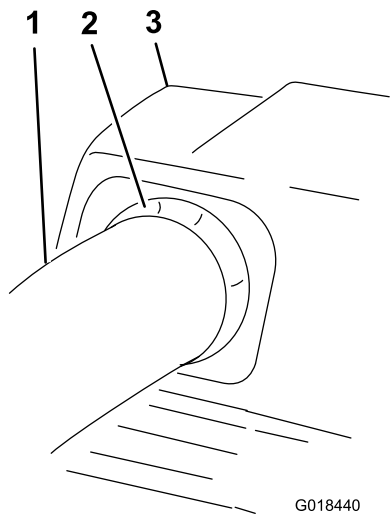

Figure 29
11. Pull the upper tube out slightly so that the seal extends outward and over the lower tube (Figure 29).
20. Pull the upper tube out slightly so that the seal extends outward and over the blower assembly (Figure 29).